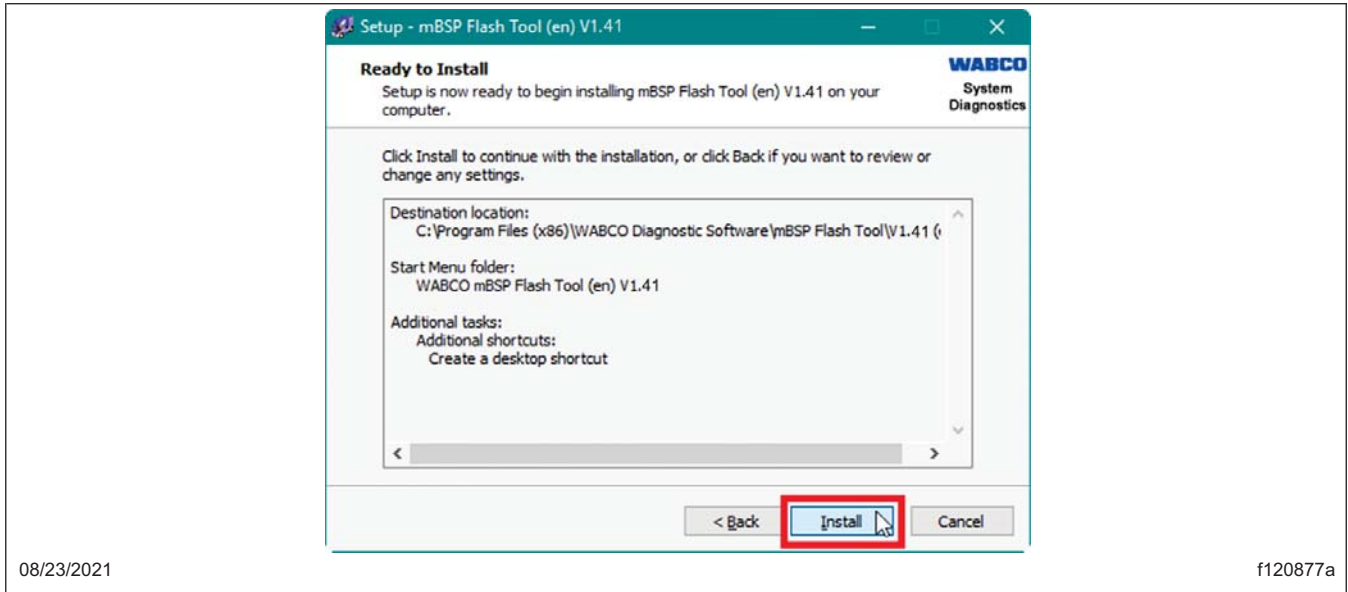

Fig. 17, Starting the Install Process
7.11 The 'Ready to Install' window will appear. Select 'Install.' See Fig. 17.